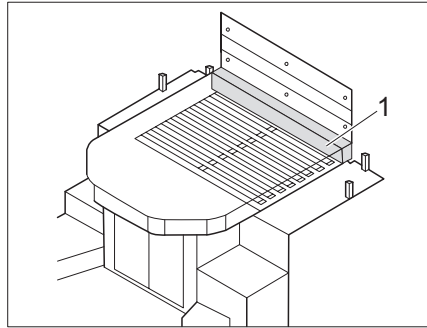

Fig. 107 Bed extension - variant 1
- Place additional mattress (Fig. 107,1) on the front side of the queen bed.